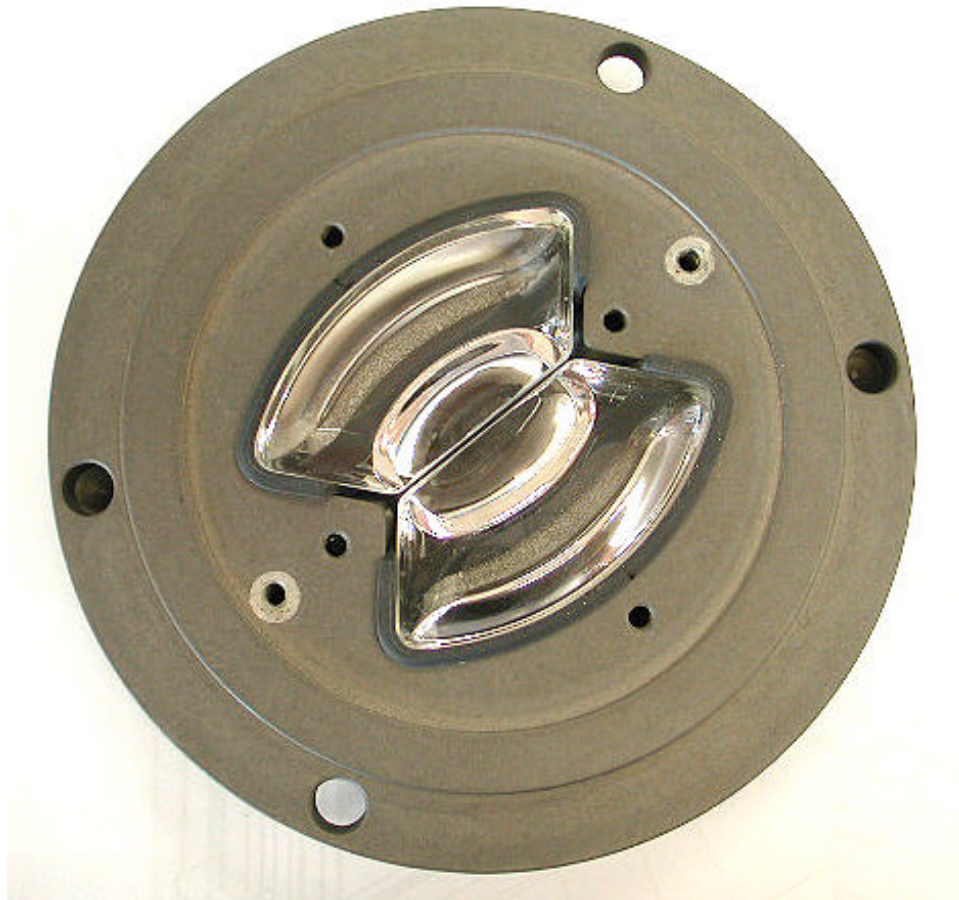

Fig. 3. Body inverted showing prisms in place.
- Check the prisms internal and external surfaces, for contamination, physical damage, (i.e. chips and cracks). See **Fig. 3**.